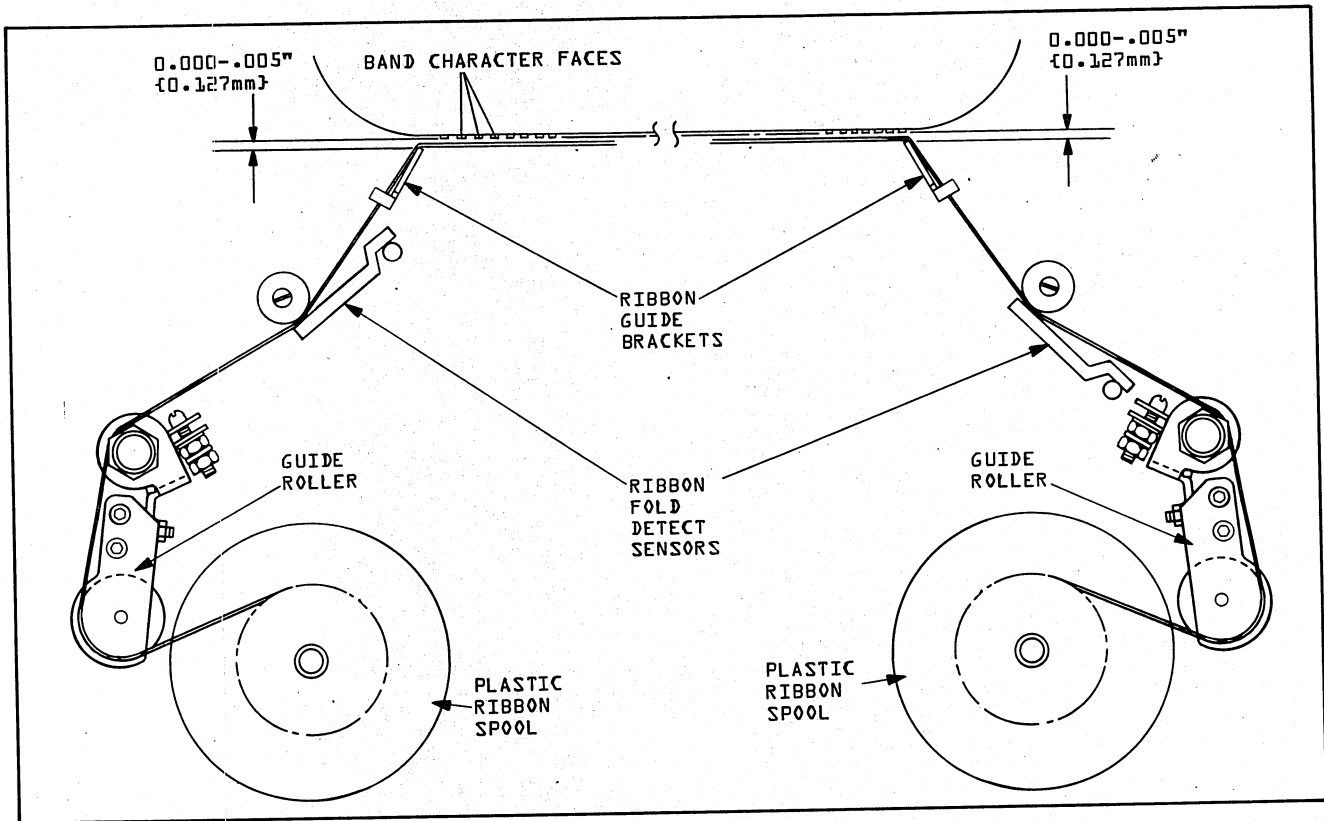

FIGURE 5-21B. RIBBON SYSTEM WITH GUIDE ROLLERS
3. Connect a jumper from the side of R69 (2.7k, 1w) which goes to QN1-07, and the other end to ground (P4-2 or CR-1 anode). Refer to Figure 5-21B.
Ribbon System with Guide Rollers (Figure 5-21B)